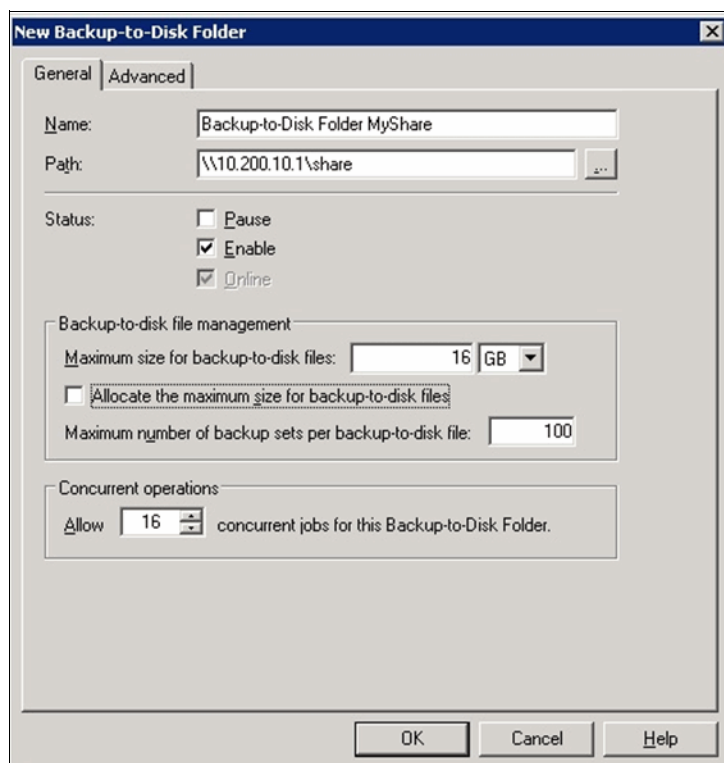

Figure 15-2 Create a backup-to-disk folder
4. Configure the parameters of the folder. Figure 15-2 shows the best practice parameters (full path name, 16 GB file size, and maximum concurrent jobs).